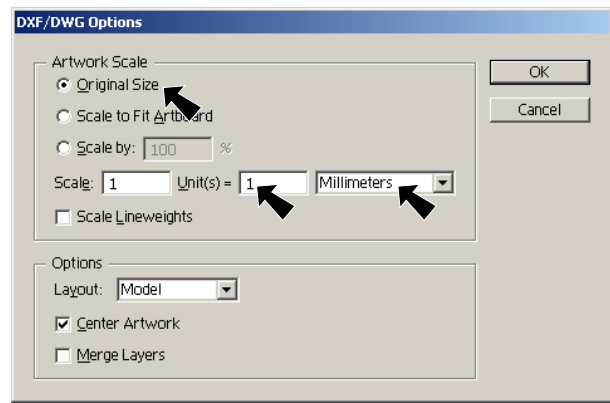
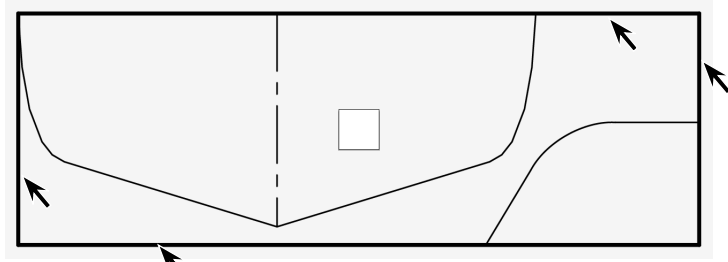

Fig. 50
Fig. 51
Step 2. In DXF/DWG Option dialog box: under Artwork Scale, **Fig. 50** select **Original Size** set units **Millimeters** set **Unit(s) = 1** and click OK, **Fig. 51**.
Step 1. Delete the **four** line of the Blank feature, **Fig. 51**. To delete, click line and press Delete key on keyboard.